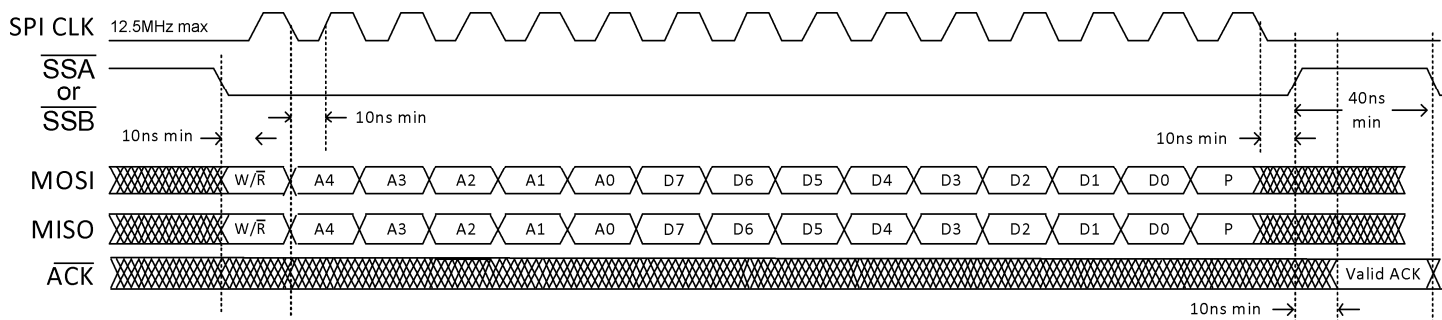
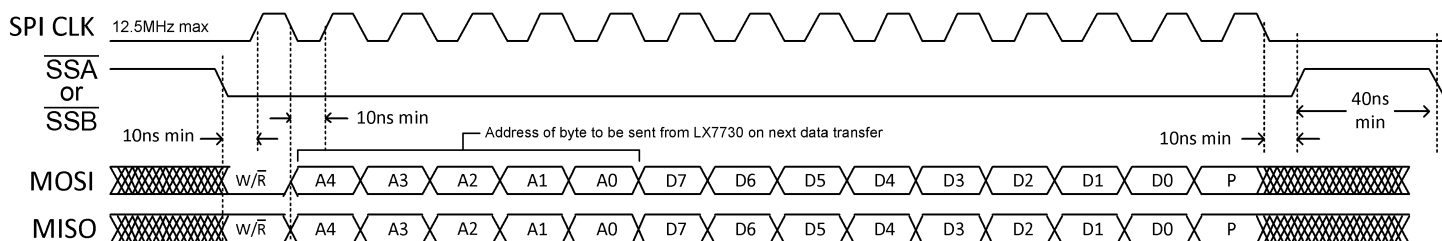
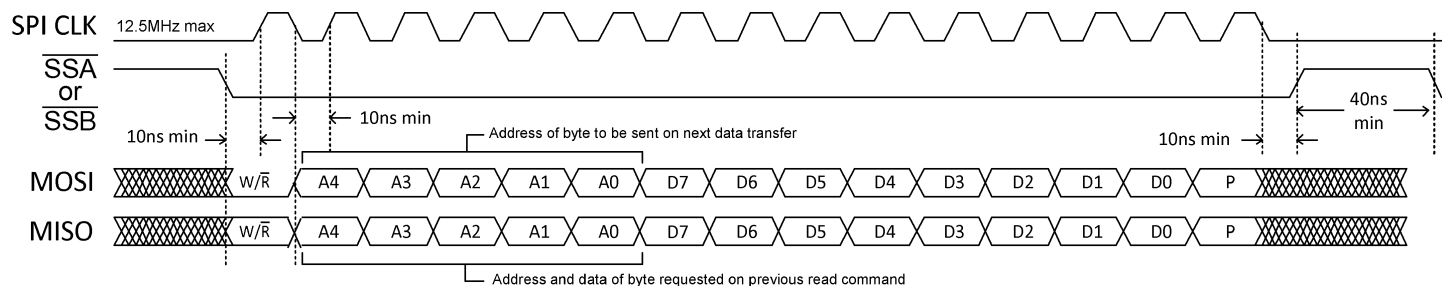

Figure 14. Serial Data Write Timing Diagram
Figure 15. Serial Data Read Timing Diagram
Figure 16. Serial Data Read Timing Diagram
Serial interface A is selected by setting the inputs $SPI_A = 0$ and $SPI_B = 1$ (Table 14 below). Serial interface B is selected by setting the inputs $SPI_A = 1$ and $SPI_B = 0$ (Table 14 on page 31). The serial interface packs a R/W bit, the 5 register address bits A4 to A0, the 8 data bits D7 to D0, and a parity bit P into a 15-bit word in that order. The parity bit provides mandatory data validation for every write. The LX7730 performs an even parity check on this 15-bit word. Parity is correct if there are an even number of 1s in the word. Figure 14 shows the serial write timing diagram.
Figure 15 and Figure 16 show the serial read timing. Use an 80ns minimum CLKA and CLKB period (12.5MHz), with 32ns minimum high time and 10ns minimum low time. Setup/hold time on MOSI is 10ns/0ns before/after the rising edge of CLKx reaches logic 1. Data is valid on MISO 10ns after the falling edge of CLKx reaches logic 0, and should be sampled on the subsequent rising edge of CLKx.
3. Execute the read or write sequence per Figure 14, Figure 15, and Figure 16